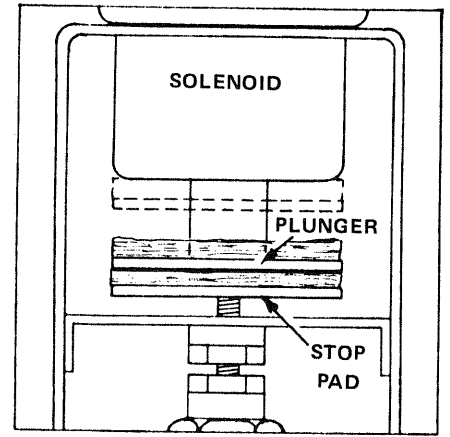

FIGURE 9-40 Plunger bottomed against the Stop Pad.
- C. After removing the Solenoid from the piano, plug the Power Cord into the Circuit Interrupter, and turn the Interlock and ① POWER Switches ON. Hold the Solenoid upright by the Dowel, apply just enough downward pressure on the Dowel to bottom the Solenoid plunger against the Stop Pad (See FIGURE 9-40), and press the ⑩ PLAY BUTTON. Observe the operation of the Solenoid. If it does NOT work, refer to SECTION 10, TROUBLE ANALYSIS, for system repair procedures. If it works, proceed to Point D. \* (NOTE: CAUTION below).